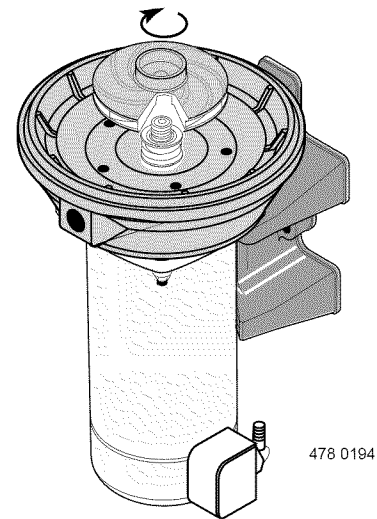

Figure 8
- I. Screw impeller on shaft (clockwise) while holding shaft with 7/16" open end wrench on shaft flats. This will automatically locate seal in place. See Figure 8.